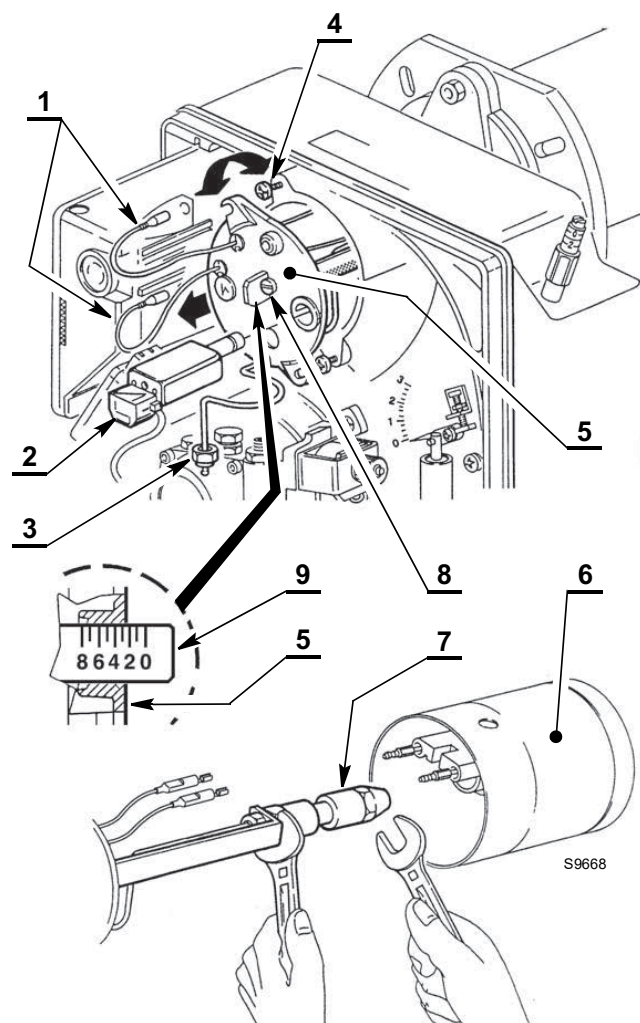

Fig. 16
To access the nozzle carry out the following operations (Fig. 16):
- remove the wires 1) from the flame control, the flame sensor 2)(Fig. 16) and loosen the nut 3) from the pump.
- Change the nozzle 7)(Fig. 16), holding the nozzle-holder with the help of a spanner.